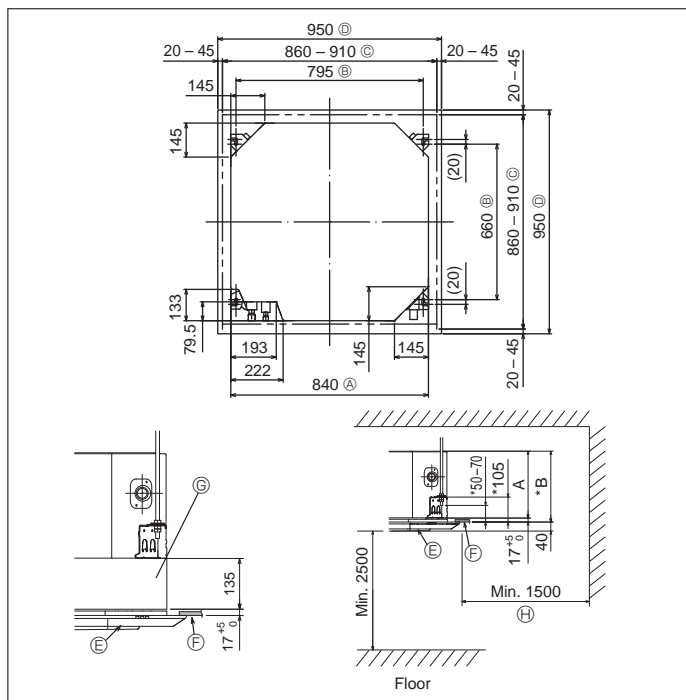

Fig. 3-2
④	Band (large)	8
⑤	Band (small)	1
⑥	Drain socket	1
⑦	Insulation	1
⑧	Flare nut 1/4F (RP60)	1
3.2. Ceiling openings and suspension bolt installation locations (Fig. 3-2)
* The dimensions of ceiling opening can be regulated within the range shown in Fig. 3-2; so center the main unit against the opening of ceiling, ensuring that the respective opposite sides on all sides of the clearance between them becomes identical.